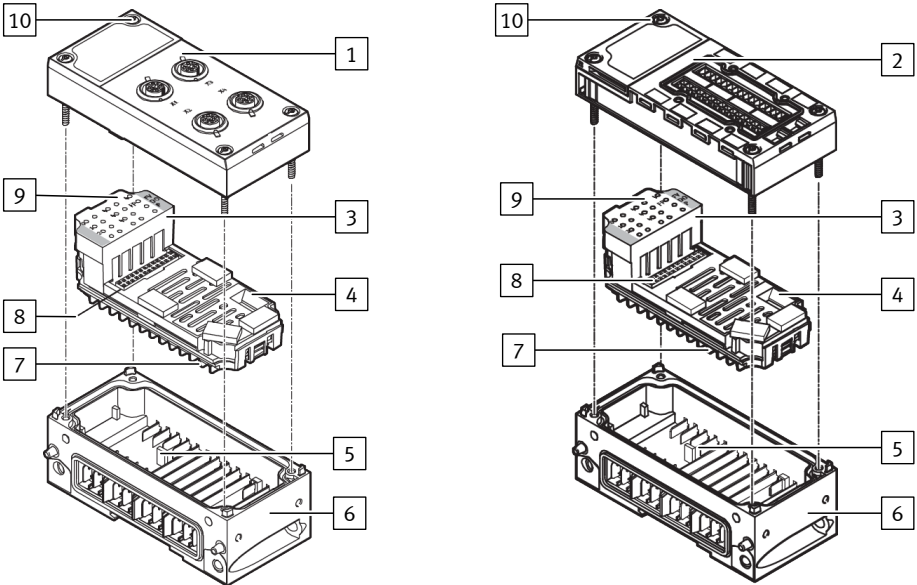
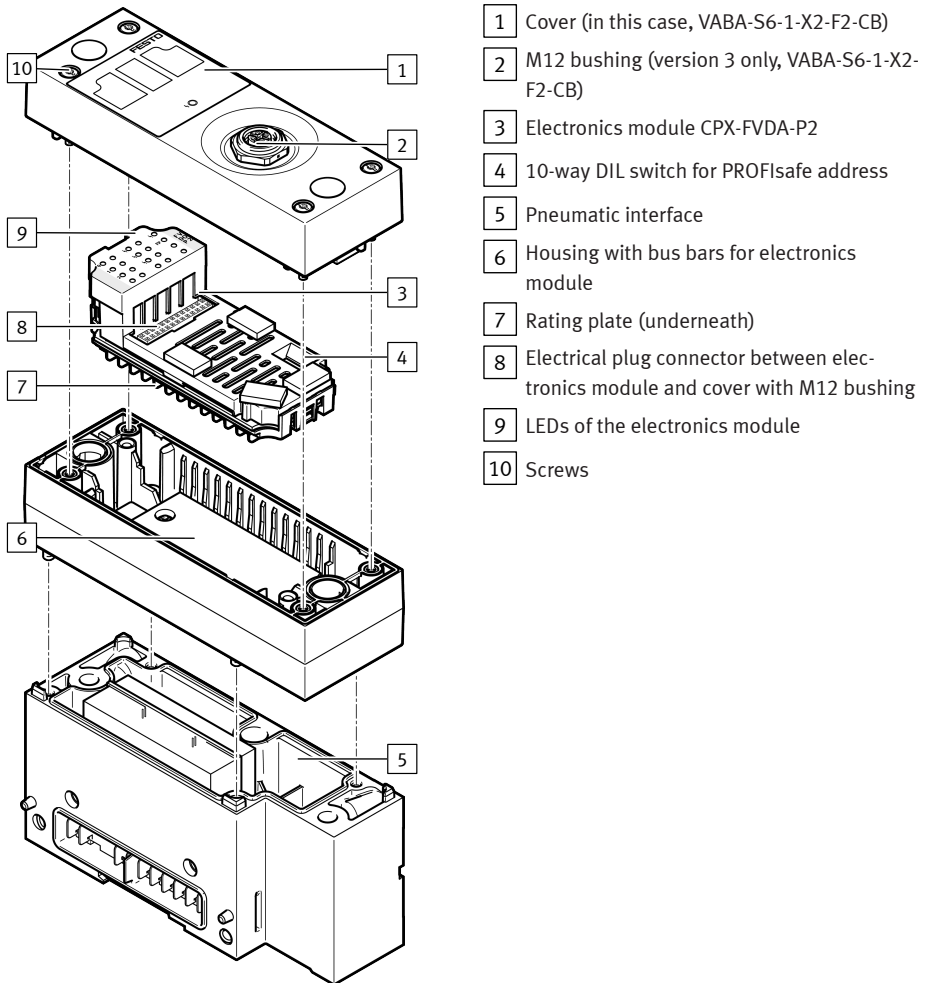

Fig. 1: Output module CPX-FVDA-P2 in a CPX terminal
Fig. 2: Output module CPX-FVDA-P2 in a pneumatic interface VABA-S6-1-X...-F1/F2-CB of the valve terminal VTSA-F-CB
2. Remove the mounted manifold block (➔ Fig. 1) or the cover of the pneumatic interface (➔ Fig. 2).
2. Unscrew the screws 10 and carefully lift off the manifold block 1 or 2 (linktarget doesn't exist but @y.link.required='true') or the cover of the pneumatic interface 1 (➔ Fig. 2).
- Ensure that the interlinking block (linktarget doesn't exist but @y.link.required=true) or the housing of the pneumatic interface (➔ Fig. 2) is clean and free of foreign matter, especially on and near the contacts and busbars.
2. Align the electronics module 3 correctly and press it carefully into the interlinking block 6 (linktarget doesn't exist but @y.link.required=true) or into the housing 6 (➔ Fig. 2).